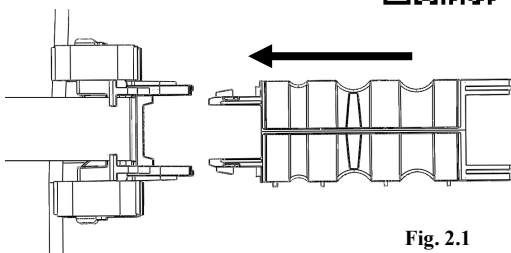

Fig. 2.1
Each Angle Brace has a slotted receiver (female end) for the Extender Arm prongs (male end) to insert into (Fig 2.1). Once installed the Extender Arms will give you a platform to install your GenTent Frame Rods into.
- Push the Extender Arm straight into the Angle Brace until the pivot pins snap into place (Fig 2.1)